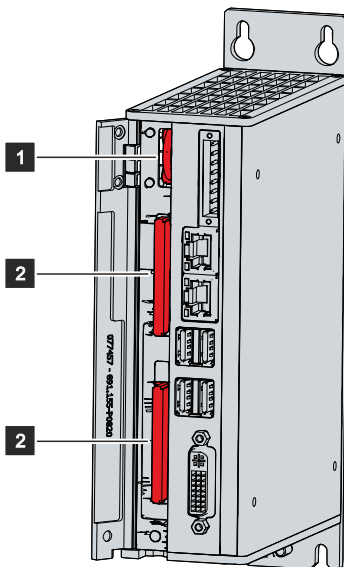

Fig. 18: C6915 _Battery and storage media
You now have access to the battery (1) and storage media (2) (see Fig. 18).